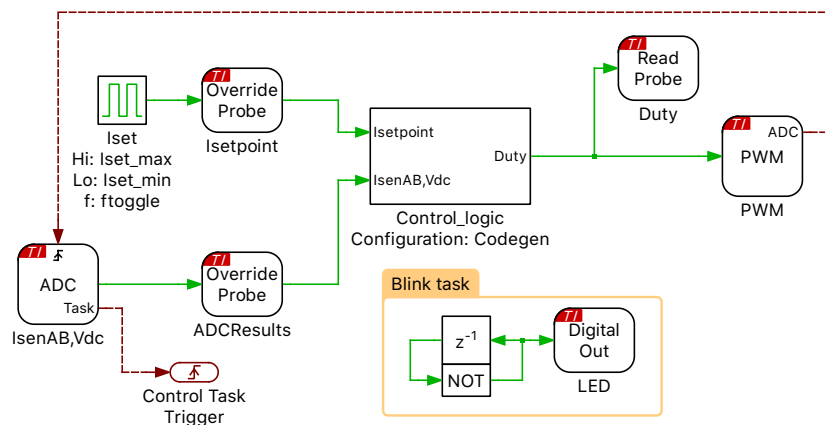
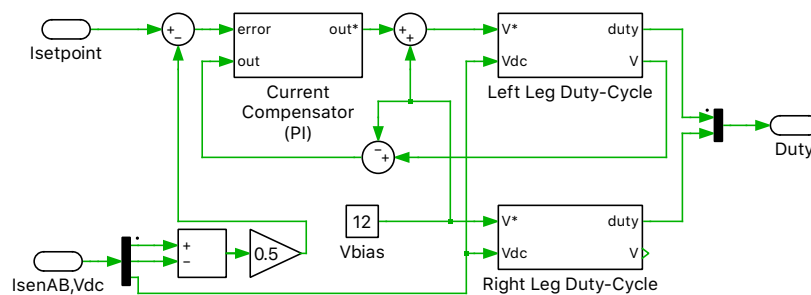

Figure 2: Controller subsystem
Figure 3: Control logic of the H-Bridge circuit
The controller subsystem is shown in Fig. 2. The control logic is shown in Fig. 3.
During a PIL simulation, an Override Probe allows PLECS to overwrite variables in the embedded code. In this model, the controller subsystem contains two Override Probes as seen in Fig. 2. The first Override Probe labeled “Isetpoint” allows to modify the current reference set-point, and the second Override Probe labeled “ADCResults” allows to modify the sensed analog measurements. The Read
1 First, set the configurable subsystem labeled “Control_logic” in Fig. 2 to “Codegen”.
- 4** Next, set the configurable subsystem labeled “Control_logic” in Fig. 2 to “PIL”.